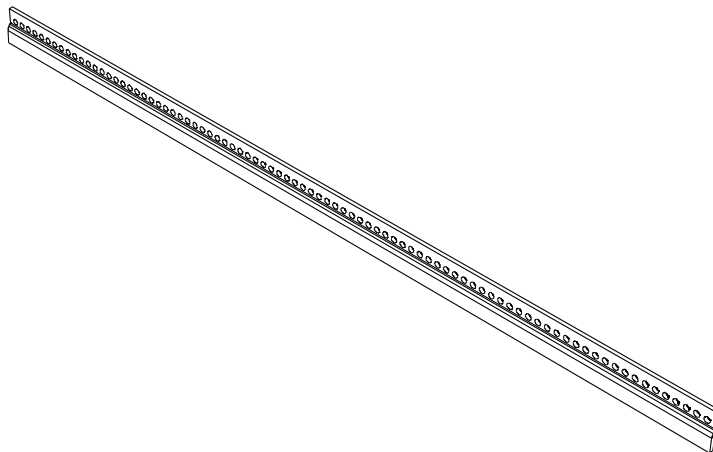

Figure 5: PCB Card Retainer Bar
2. Use a #1 Phillips-head screwdriver to remove the mounting screws/washers (five per bar) from the top and bottom PCB card retainer bars (see Figure 5) on the system. Keep the retainers and screws together in a safe place for replacement later.
4. Reinstall the top and bottom PCB card retainer bars (see Figure 5). Use a #1 Phillips-head screwdriver to replace the mounting screws/washers (five per bar).